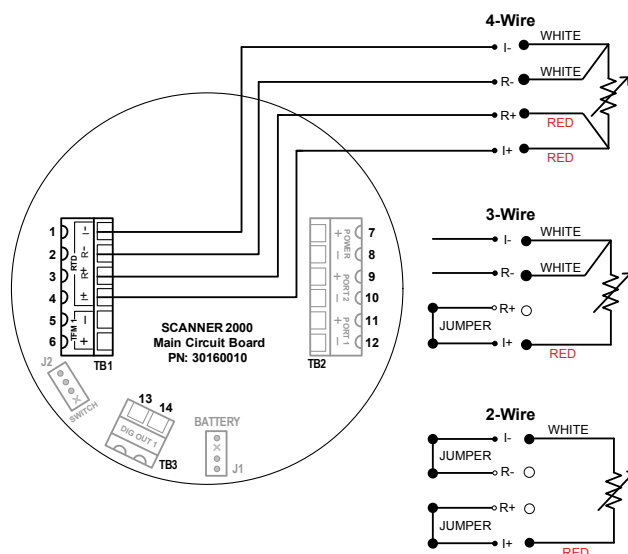

Figure 3.11 - Process temperature input wiring
- d. Connect the process temperature input wiring, if appropriate. See Figure 3.11, pg. 65.
The RTD assemblies described in Appendix A of this manual are recommended for measuring temperature for use in temperature-compensated gas and liquid calculations, though a 2- or 3-wire RTD may prove functional. Wiring is essentially the same for all three models, though wire color may vary as indicated. Wire as shown in Figure 3.11.